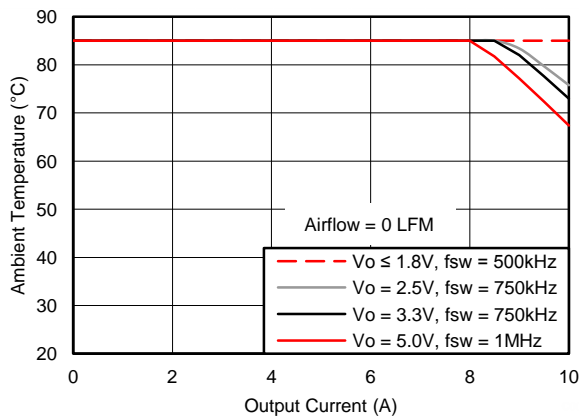
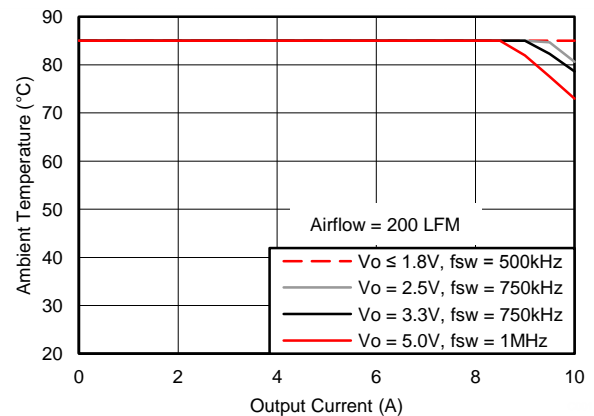

Figure 5. Safe Operating Area
Figure 6. Safe Operating Area
- (2) The temperature derating curves represent the conditions at which internal components are at or below the manufacturer's maximum operating temperatures. Derating limits apply to devices soldered directly to a 100 mm x 100 mm double-sided PCB with 2 oz. copper. Applies to Figure 5 and Figure 6.